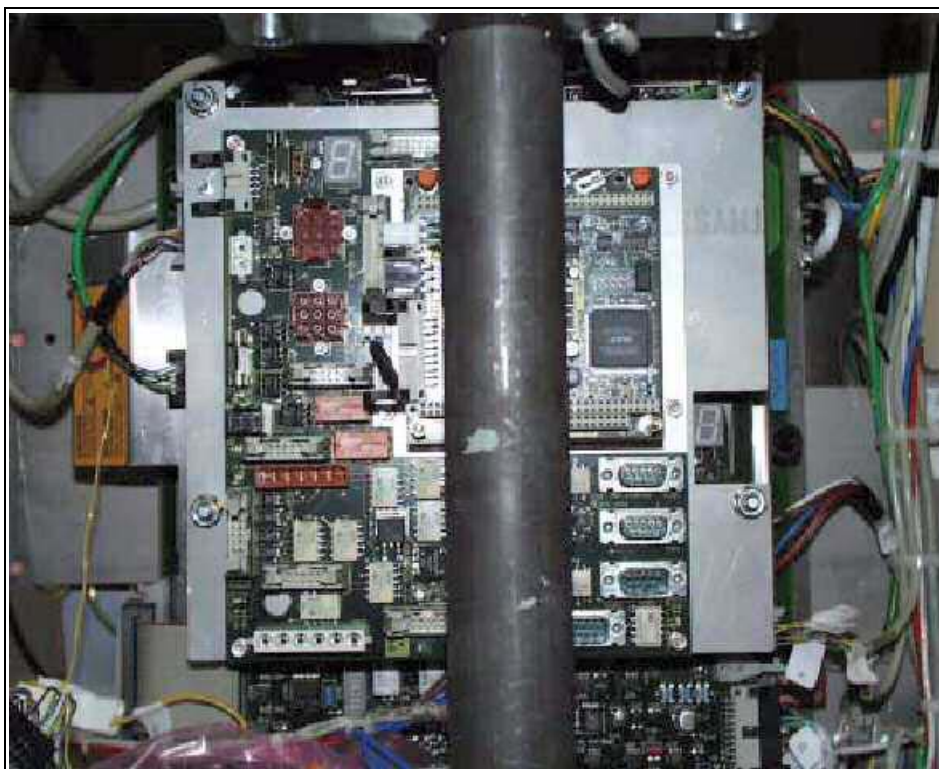

Fig. 16: Installed 3D reconstruction system electronics D200
- Attach D200 with the contact washers and nuts (\(Fig. 16 / p. 24\)).